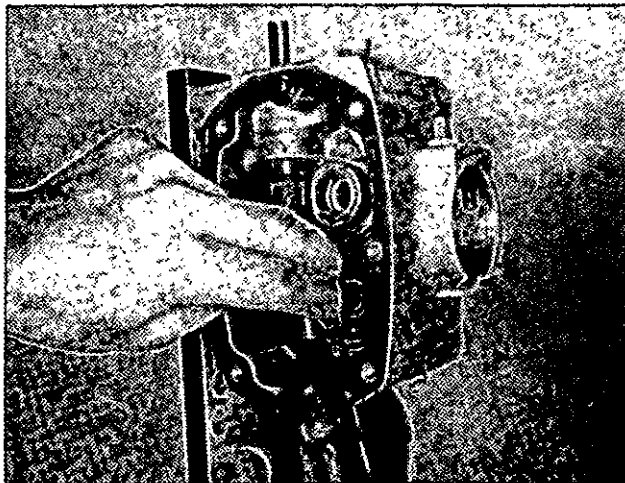

Fig. 1-5, (F513). Remove the tachometer drive assembly from the housing.
3. Remove the tachometer drive assembly from the pump with a brass punch and hammer, Fig. 1-5. Use ST-667-10 collet with ST-667